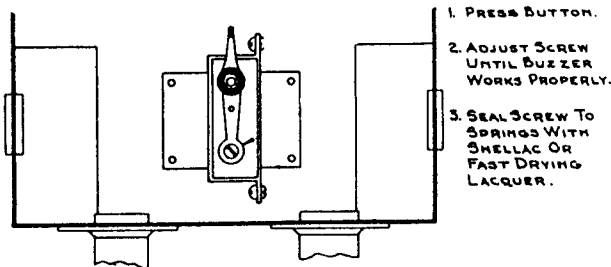

FIG. 6—ADJUSTING DRIVER'S BUZZER
10. To adjust the driver's buzzer (in Junctions Distribution Nos. 1 and 3) take off the box as for Control Unit No. 1 (See Para. 6) and adjust buzzer as in Fig. 6. DO NOT NEEDLESSLY ADJUST except when buzzer fails.